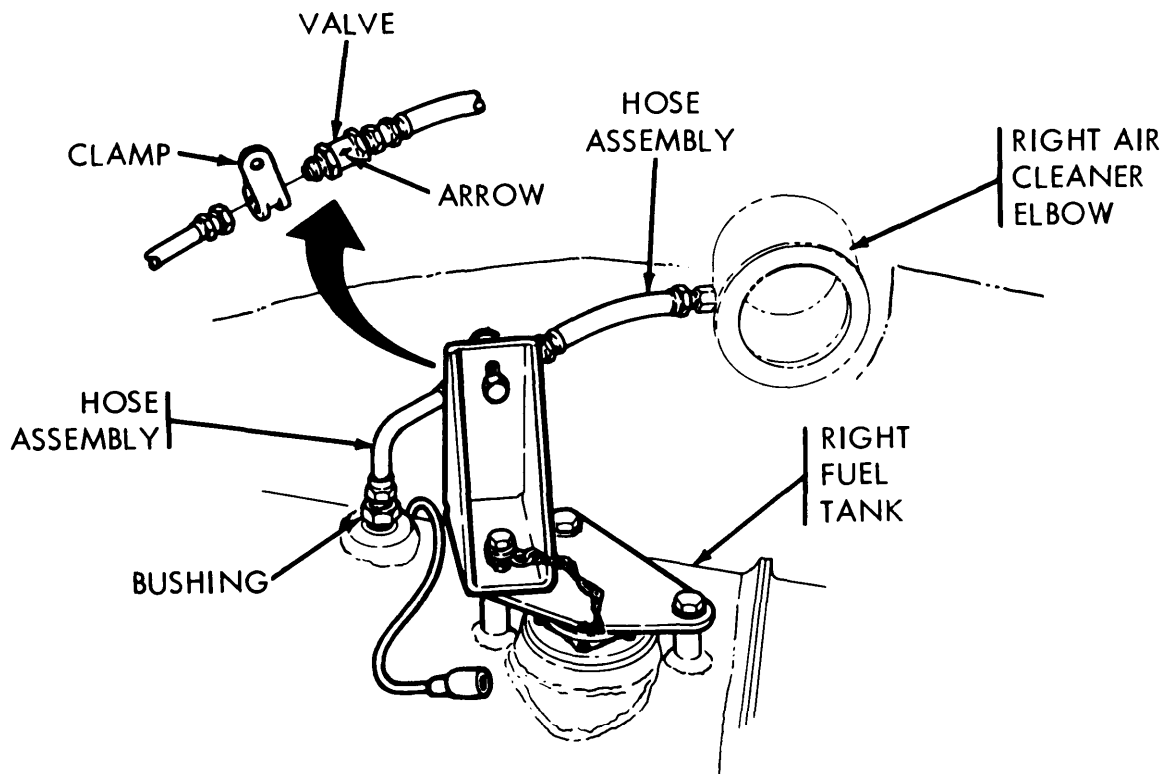

Figure 3-6. Fuel tank vent system inspection.
a. *Fuel Tank Vent System (Fig. 3-6).*